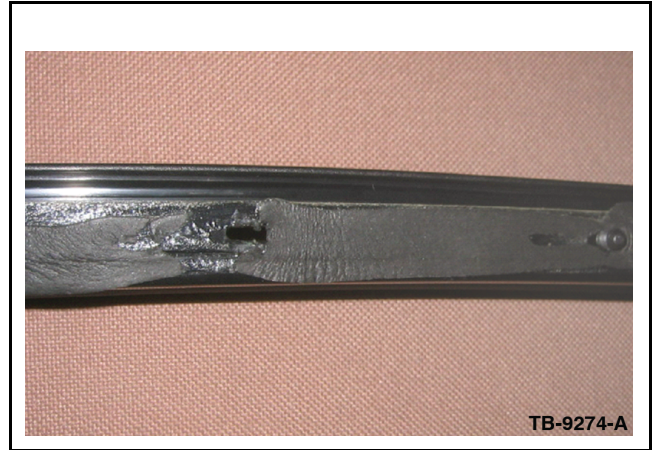

Figure 6 - Article 08-26-7
- a. Replace window weatherstrip retainer, if foam seal is damaged. (Figure 6)